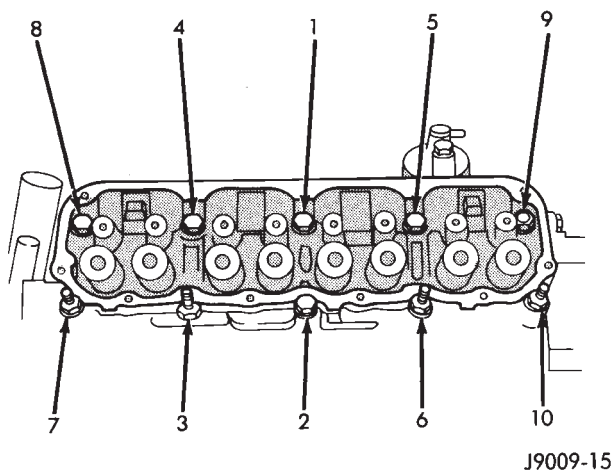

Fig. 37 Engine cylinder head Bolt Tightening Sequence
(10) Tighten the engine cylinder head bolts in sequence according to the following procedure (Fig. 37):